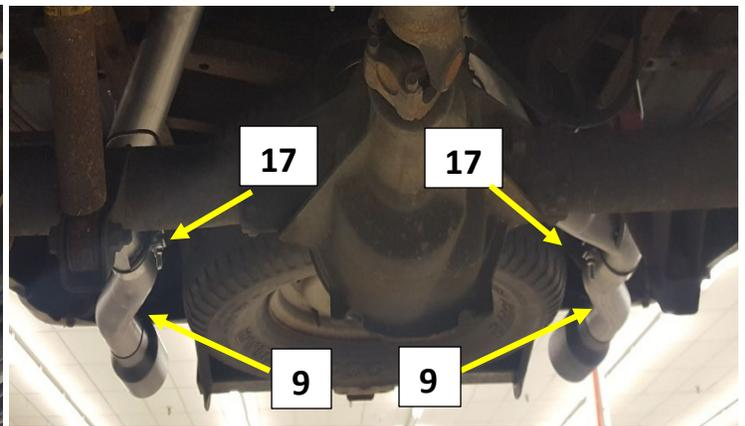

Figure.14
2. Install the supplied tip and adjust to personal preference before tightening the clamps on the exit pipe and tip. **Fig.14**